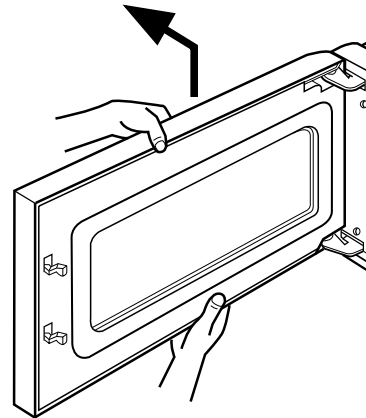

Figure 15
F. REMOVING DOOR (Figure 15)
- (1) Remove the vent grille by removing the two screws securing it to the outer case.
- (2) Lift up and draw the door.